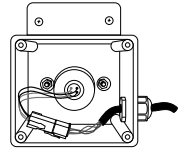

FIGURE 2
- Once the UV bulb has cooled off remove the CLEARRAY unit enclosure cover (9) and gasket (8) by removing the four screws (10). This will expose the UV bulb and connections, Figure 2.